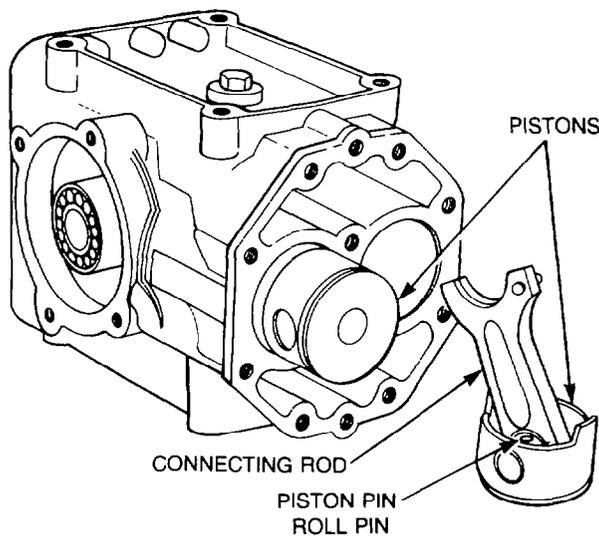

Figure 338 — Piston and Connecting Rod — Removal
- j. Carefully remove the pistons and connecting rods from the crankcase (see Fig. 338) and note the position of the piston pin roll pins positioned towards the centre of the compressor.